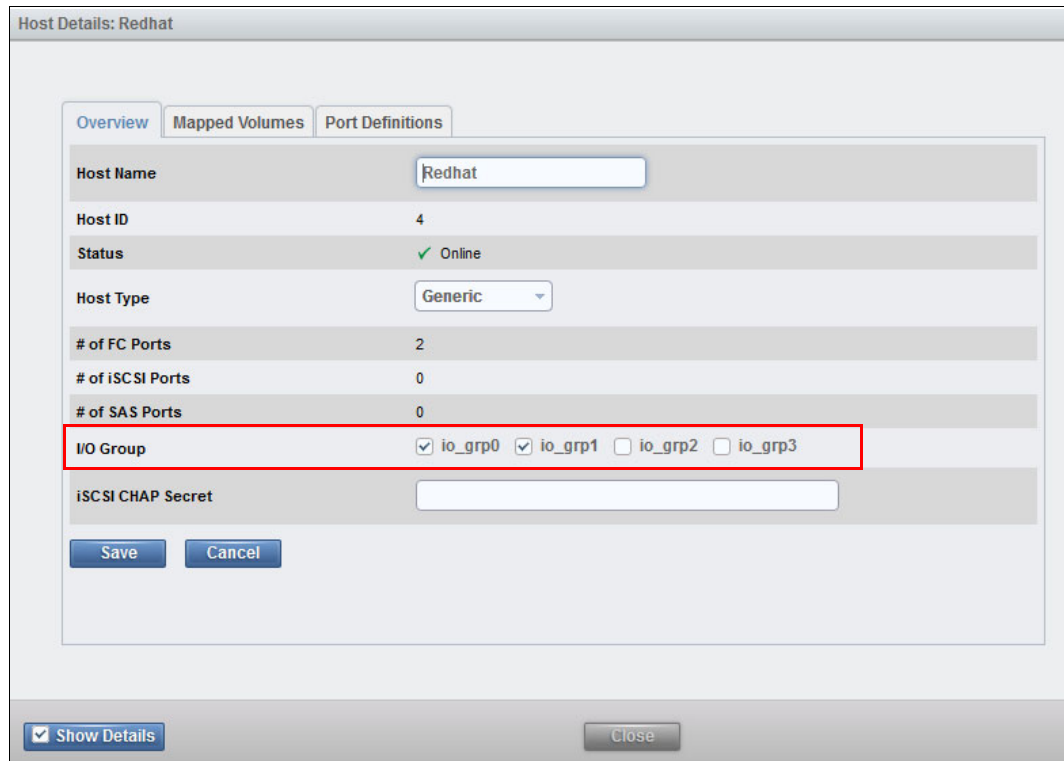

Figure 5-65 Edit details: select additional I/O group
- Click **Edit** and then select the I/O group (Figure 5-65) that the host and volumes are to be migrated to. The host is going to be available to I/O group 0 and I/O group 1. Click **Save**.